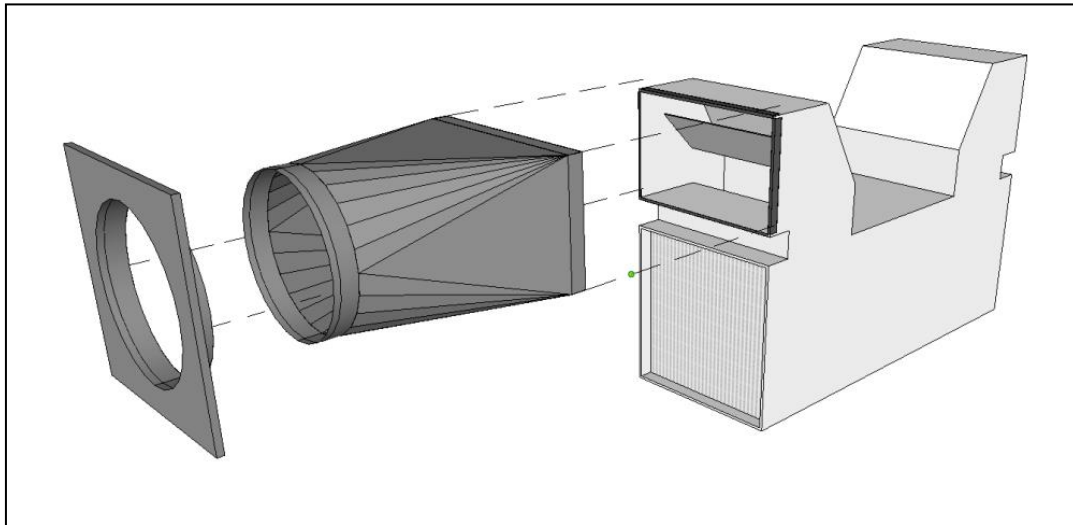

Fig. 4 – Exploded View of Airflow 1 Connection Assembly (from left to right: Faceplate/Collar, Round-to-Square Transition, Z-Clips, ERV)
4. Fasten connecting ductwork to Z-Clip with sheet metal screw spaced 6" O.C.. Repeat for all sides. See figure 4.